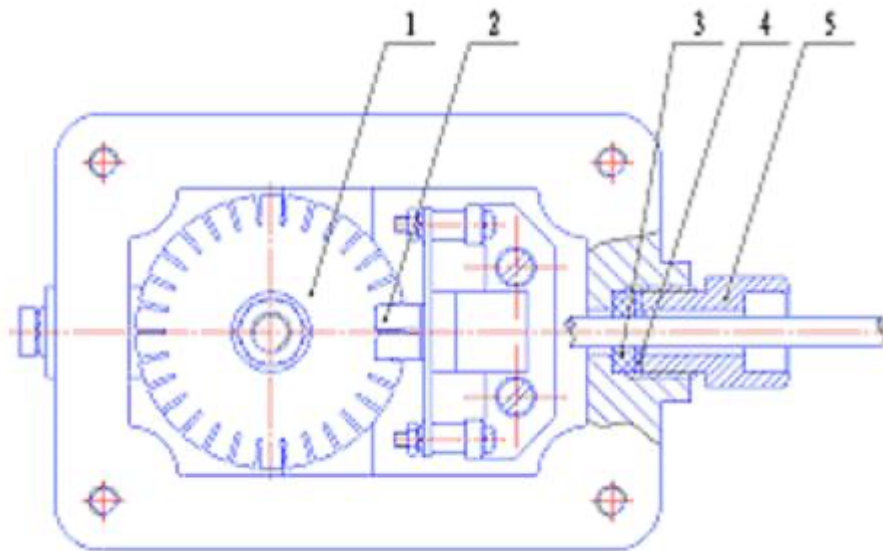

FIG.1 Vertical View
5.2. The explosion-proof transducer should be subject to, as the flameproof principle, The parameter of flameproof joints accord with the specifications of GB3836.2-2000/ EN60079-1: 2004, the surface of enclosure adopts the gray powder coating, the structure drawing please see FIG1~3